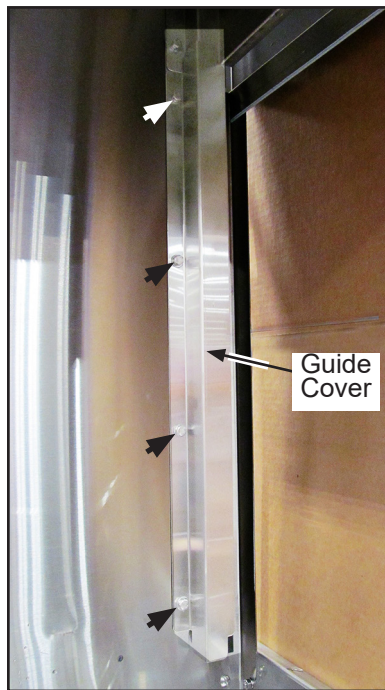

Fig. 3
4. Remove the (4) bolts, locks, and washers securing the right-hand door guide cover. Save the fasteners and discard the cover, (Fig. 3).